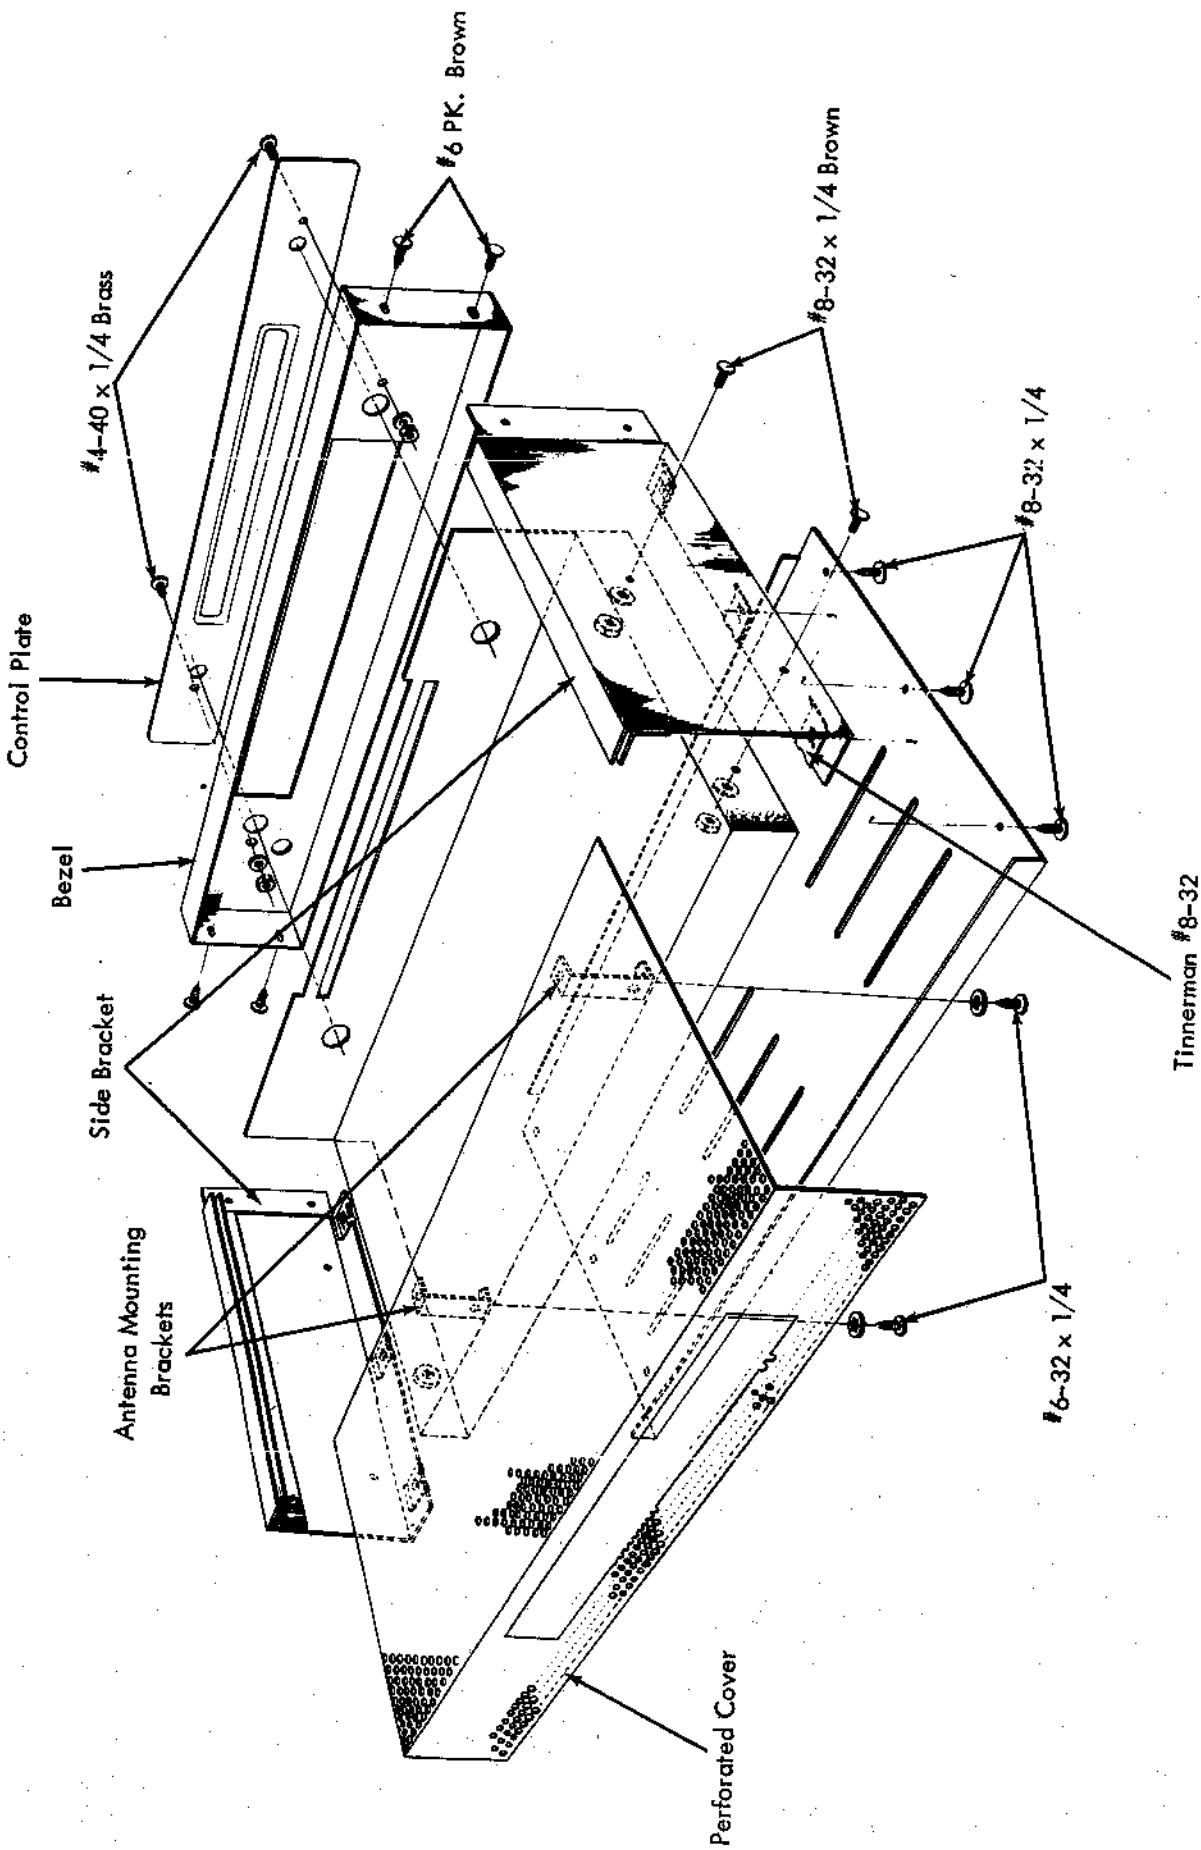

Fig. 13
- 4) () Fig. 13. Assemble left side mounting bracket (with front of the chassis facing you) using two #8-32 x 1/4 brown colored screws, two #8-32 hex nuts, and two #8 lockwashers. Assemble right side mounting bracket using two #8-32 x 1/4 brown colored screws, one #8-32 hex nut, and one #8 lockwasher. Please note that one #8-32 nut is spot welded to the chassis.
- 5) () Fig. 13. On the bottom flange of each side piece, press a innerman #8-32 - Type J speed nut in place over each of these holes. Note that the short leg of the nut faces up towards you.
- 6) () Fig. 13. Mount the control plate on the bezel using two each #4-40 x 1/4 brass screws, #4 lockwashers, and #4 hex nuts to fasten it to the bezel.
- 7) () Fig. 13. Fit the bezel and control plate over the projecting control shafts, onto the ends of the side brackets. Assemble the bezel to the side brackets with four #6 x 1/4 brown colored P. K. screws.
- 11) () Fig. 13. Install the rubber feet in the openings provided in the bottom plate. The method is to work the rounded portion of each foot into the interior of the cabinet from the outside, using a small screwdriver. The flat portion should be the actual resting or contact surface.
- 12) () Fig. 13. Insert the perforated cover into the "rails" on the side piece and slide it forward fully. The antenna loopstick will slide through the cutout in the rear of the perforated cover. If the perforated cover does not slide fully forward, temporarily loosen the screws holding the side brackets, slide the cover fully forward and retighten the screws.
- 13) () Fig. 13. Fasten the perforated cover to the two antenna mounting brackets at the rear of the chassis. These brackets have previously been used in the mounting of the antenna loopstick. Use two #6-32 x 1/4 screws.
- 14) () Fig. 13. Mount the bottom plate on the bottom flanges of the side pieces, using six #8-32 x 1/4 uncolored screws. Note that the rear flange on the bottom plate fits over the outside of the rear chassis apron.
- 15) () Fig. 13. Remove the backings from the two labels supplied and place them on the outside surface of the bottom plate.